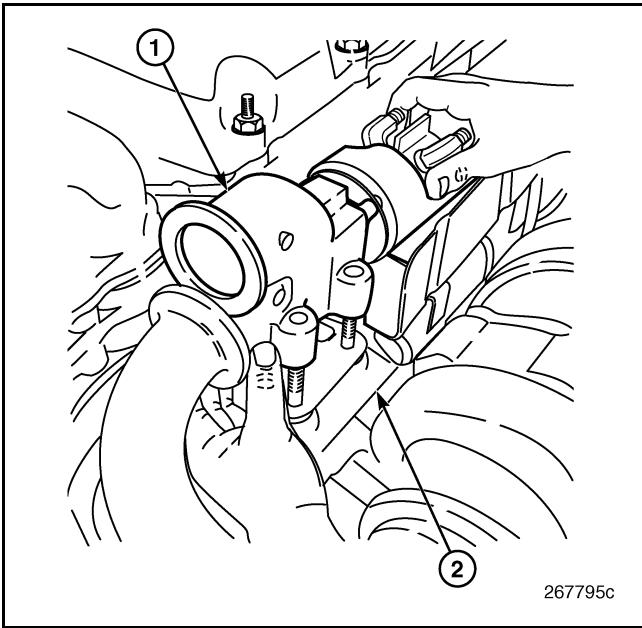

Figure 414 — EGR Valve Installation
3. Place the valve assembly in position on the exhaust manifold studs (Figure 414). Loosely install the retaining nuts. **DO NOT** tighten them at this time.